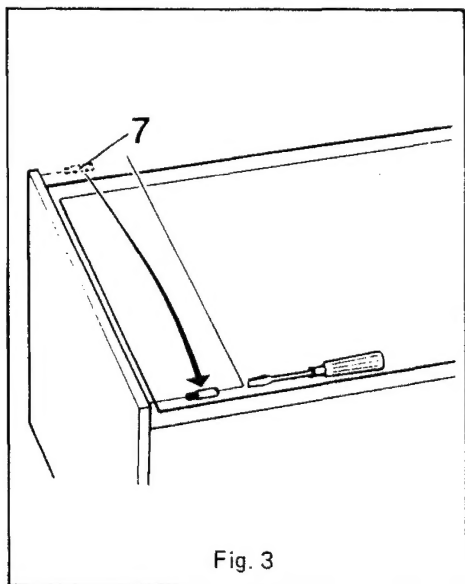

Fig. 3
2. Gently lay the refrigerator on its back and take note of which way round the two front feet are positioned in relation to the cabinet front. Remove both front feet by taking out the cross-headed screw and washer (1) from the centre of the smaller foot, and the similar screw and washer (3) from the rear opening of the larger foot.
3. Remove the metal hinge blade (2) by taking out the screw (4) with its locking washer (5). Remove the lower hinge pin (6) which may come away with the hinge blade or may remain in the hinge bush in the door.
5. Unscrew the upper hinge pin (7), illustrated in fig. 3, using a screwdriver in its slot, and transfer the hinge pin to the threaded hole on the opposite side.
7. Push the round end of the lower hinge pin (6) into the appropriate plastic bush at the bottom of the door, then, taking care not to press down on the door and compress the gasket, fit the lower hinge blade (2) to the cabinet with the screw (4) and locking washer (5), the screw entering the rear hole in the hinge plate and cabinet. Ensure that the shaped end of the hinge pin enters and locates properly in the appropriate hole in the hinge blade.
9. With a pocket knife blade or similar instrument, prise out the two plastic plugs (8) from the screw holes in the alternative handle position on the opposite side of the door. (The paintwork can be protected from damage whilst doing this with masking tape or other suitable material placed between the blade and the painted surface).
11. With the cabinet standing on a level surface, check that the door opens and closes properly and seals all round. If any adjustment is necessary, this can be done by loosening the two screws (3) and (4) holding the lower hinge blade, and adjusting the hinge blade in or out, a little at a time, to tighten or loosen the fit. Re-tighten the screws each time an adjustment has been made before again checking the door for satisfactory closure.